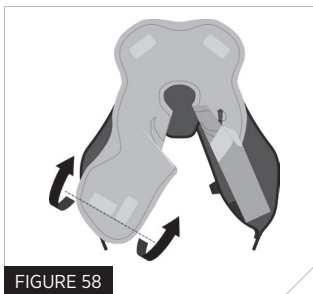

FIGURE 58
5. Fold bottom corner of the lobe (inflator side) up towards the centre of the bladder along fold line 5 (Fig 58).